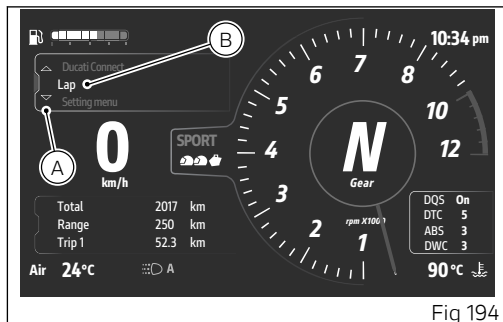

Fig 194
- Select the Interactive Menu (A, Fig 194) by pressing and holding the joystick in position ▲ for a long time.
- Use the joystick ▲ ▼ to select "Lap" (B, Fig 194) and press ENTER.